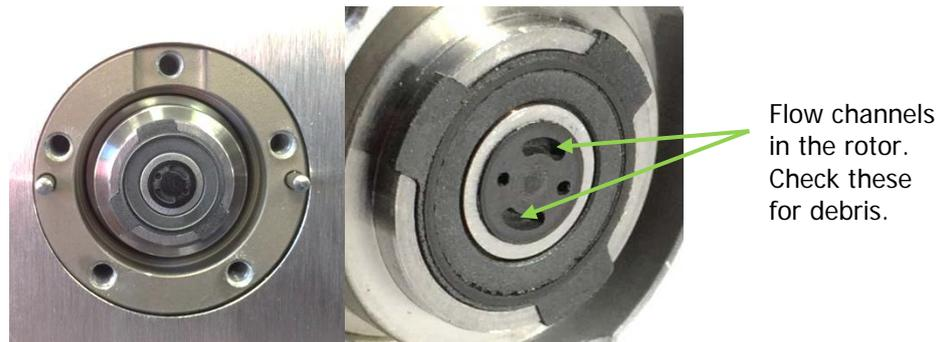
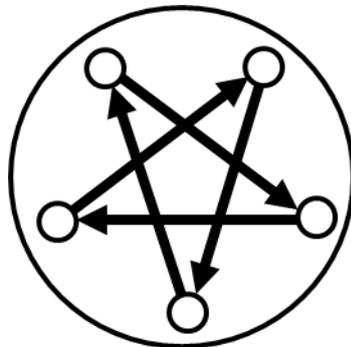

Figure 17 – Switchover valve with stator removed
Figure 18 - Loosening and tightening order for the screws
- 7.8.4 Use a 3/32" hex driver to remove the 5-40 socket head screws that secure the stator to the valve body. Alternate between the five screws in the sequence indicated in Figure 18 to keep an even pressure against the rotor. Loosen the screws in ¼ turn increments until all the load is removed i.e. the screws are free to move and then remove the screws. The stator sits on two pins protruding from the motor body (see Figure 17) and should remain attached to the motor body.
- 7.8.11 Replace the stator the correct way round. On the DCP50, port 1 marked on the stator should be at the bottom. Insert the five socket head screws and tighten them gently. As they begin to get snug, tighten them gradually in the order indicated in Figure 18 until all are snug.